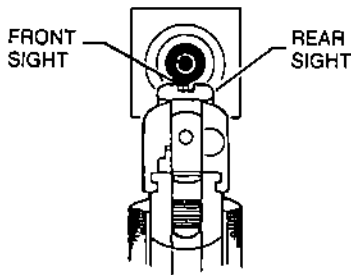

FIGURE 5--AIMING
3. Grasp pistol by stock and, with index finger resting along the outside of trigger guard, take aim. Aim by aligning target with front and rear sights. (See Figure 5)